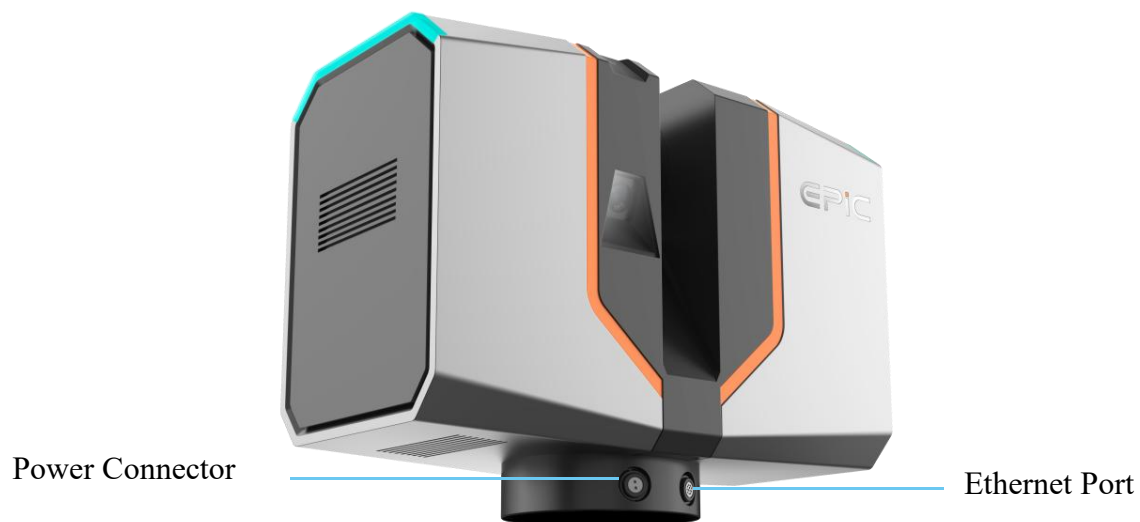

Figure 3-11 Power Connector and Ethernet Port
- 5) The power connector and Ethernet port are located on the front side of the base. They are used for connecting an external power supply and a wired network connection, respectively, as shown in Figure 3-11.